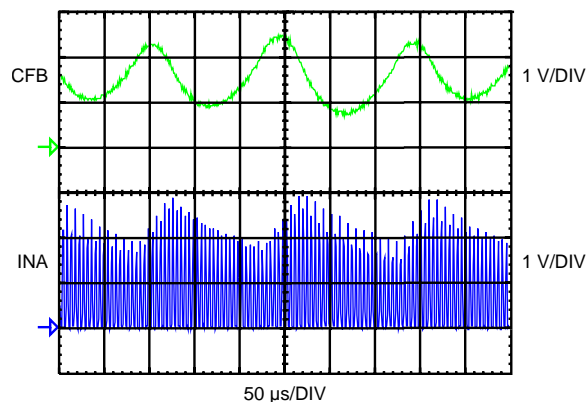
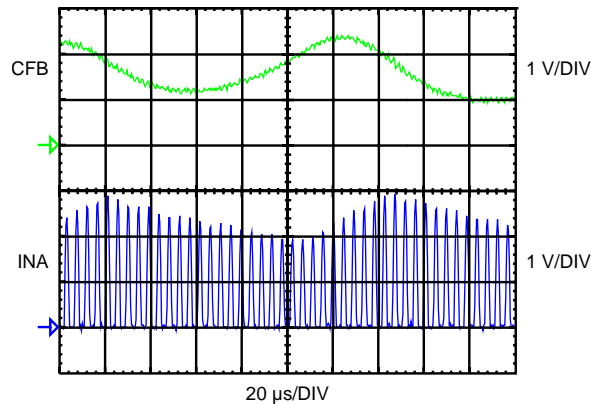

Figure 21. Determining the Value of CF
Figure 22. Determining the Value of CF
4. Step RP_MIN up one step at a time until the amplitude of the signal on the oscilloscope becomes variable as shown in Figure 21 and Figure 22. Increase RP_MIN by two, for example if the amplitude becomes variable at 17, set RP_MIN to 19.
5. Set the time scale of the oscilloscope so that many periods of the signal on the INA terminal can be seen. See Figure 21.
6. Set the CF capacitor value so that the AC portion of the waveform is about 1V_{PP} maximum. Decreasing the capacitor value will make the AC portion of the waveform larger. This signal scales linearly with the reciprocal of the filter capacitance. For example, if a 100pF filter capacitor is used and the signal observed on the CFB terminal has a peak-to-peak value of 200mV, the desired 1V peak-to-peak value is obtained using a $200\text{mV} / 1\text{V} \times 100\text{pF} = 20\text{pF}$ filter capacitor. Figure 21 shows the waveforms on CFB and INA and Figure 22 shows the waveforms using a zoomed in horizontal scale. Note that the waveforms on CFB and INA are not a constant amplitude. The waveform on CFB should be adjusted so that the maximum value is 1V_{PP}.